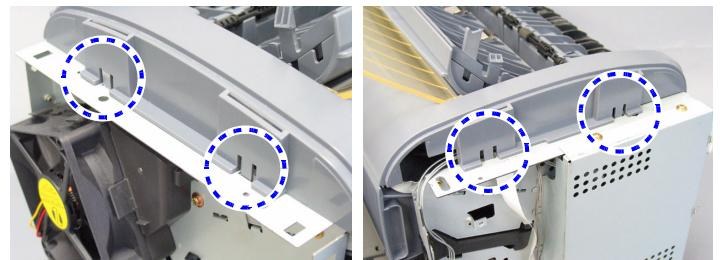

Figure 4-15. Top Cover Removal
5. Remove the Top Cover. (See Figure 4-15)